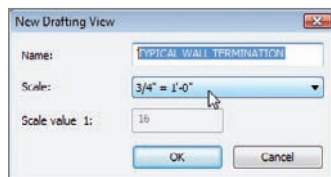

FIGURE 12.60 Changing the view name and scale
3. Change the scale to $3/4" = 1'-0"$ (see Figure 12.60).